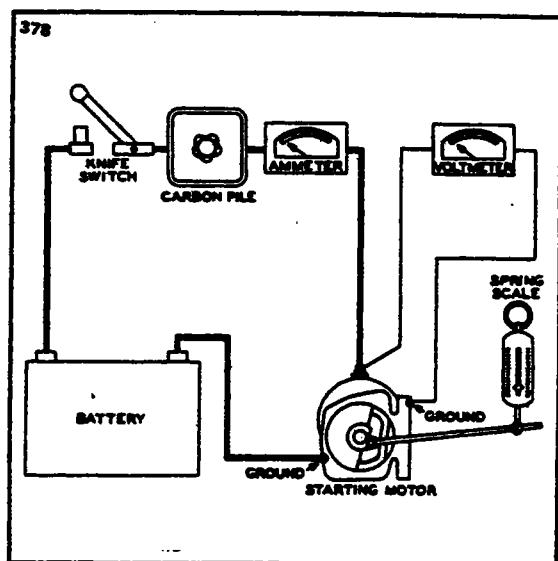

Figure 11-52. Stall-Torque
b. If no difficulty is indicated in the above test, a stall torque test may be made to see if the starting motor is producing its rated cranking power. Make test connections as shown in Figure 11-52.